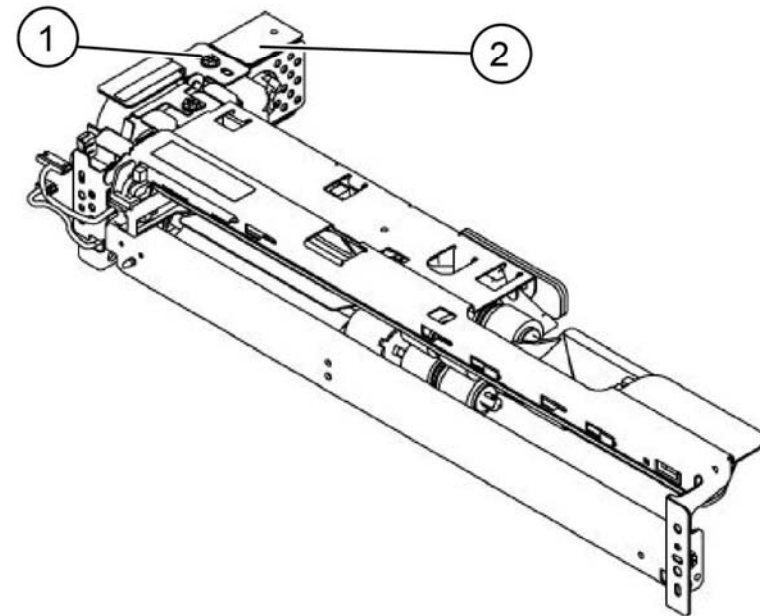

Figure 3 Tray 4 bracket removal
6. Remove the FDR 2T cover from the main tray 4 feeder, Figure 3.
- a. Remove the screw (1).
- b. Remove the FDR 2T cover (2). Retain the cover for installation onto the new tray 4 feeder assembly.
Ensure that the FDR 2T cover is installed onto the new tray 3 feeder assembly. Refer to Figure 3.